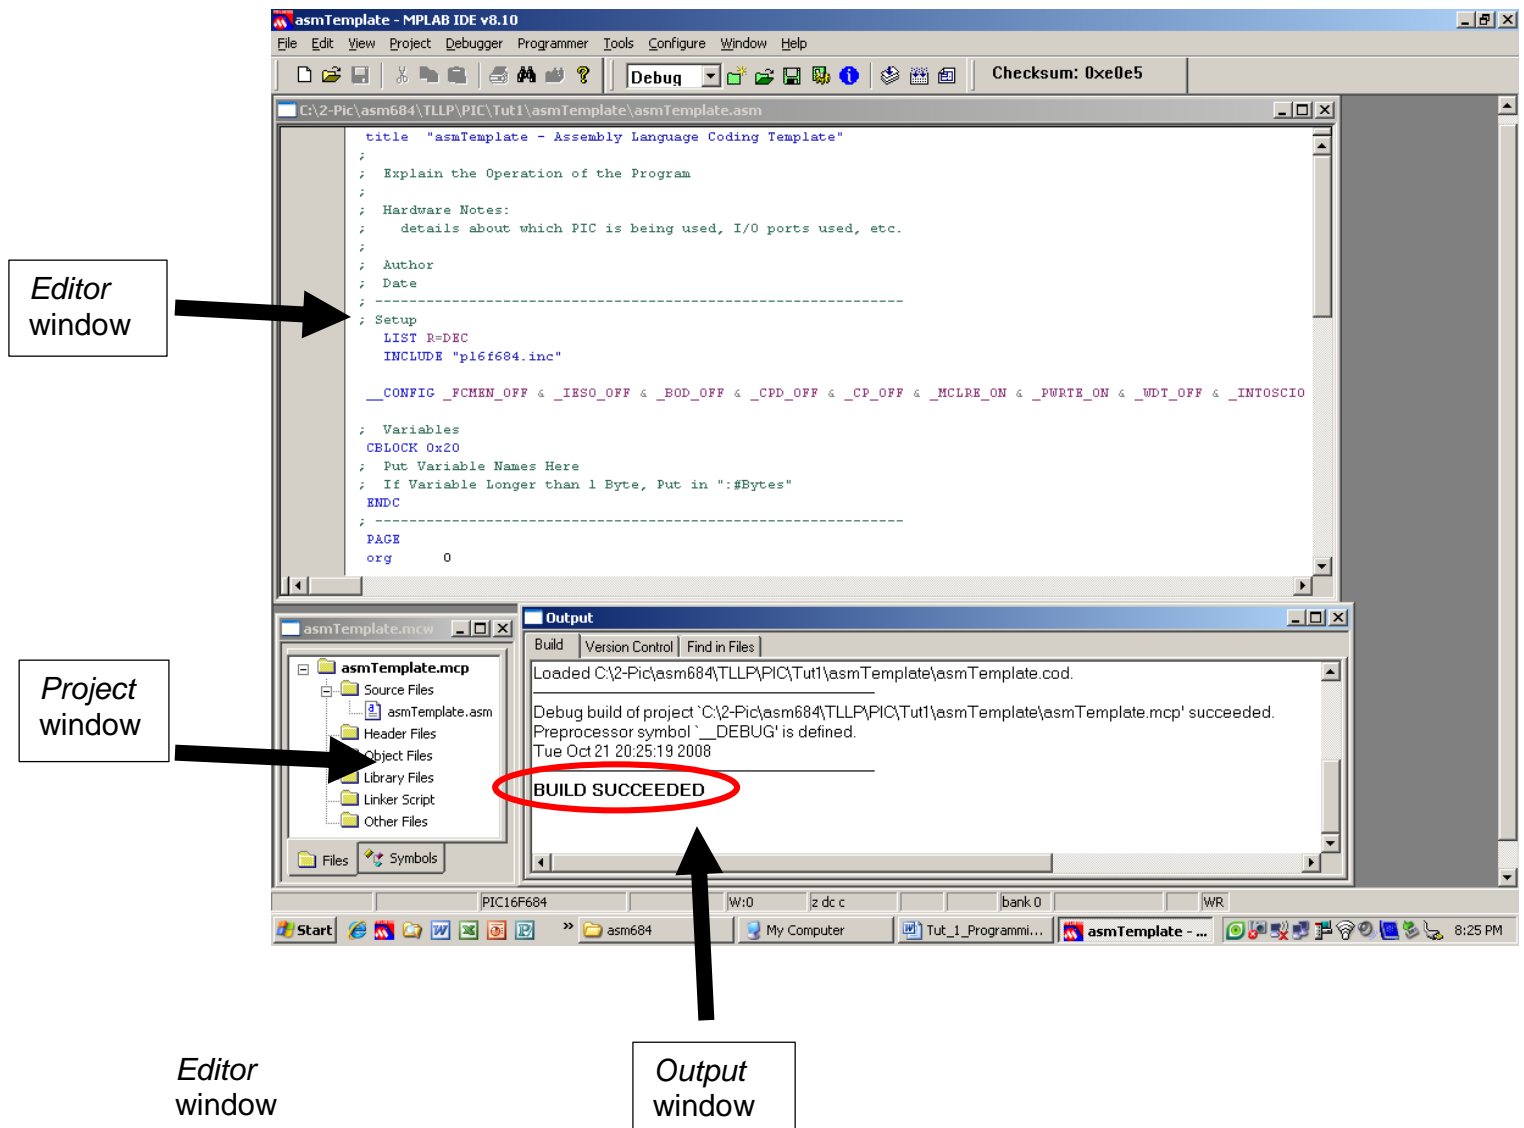

Fig 1.4: Workspace setup
7. Build your program as shown in Fig 1.4.: